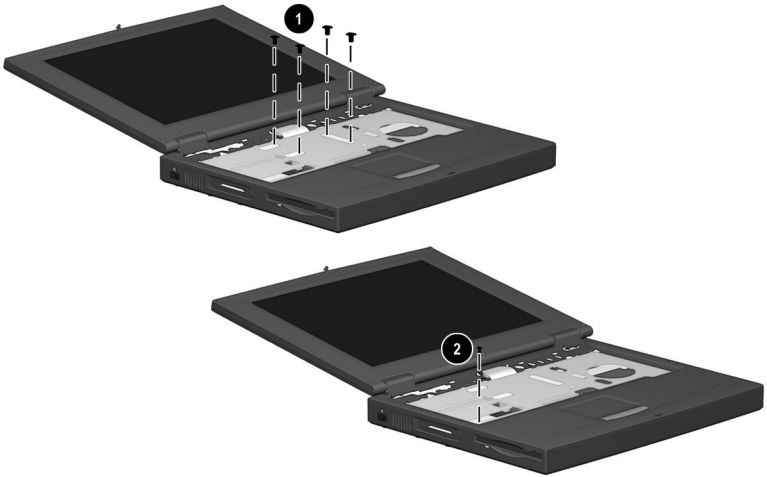

Figure 5-12: Removing the Heat Sink Screws
2. Remove the four M2.5 × 7 screws ❶ and the M2.5 × 4.5 screw ❷ securing the heat sink to the base enclosure (Figure 5-12).